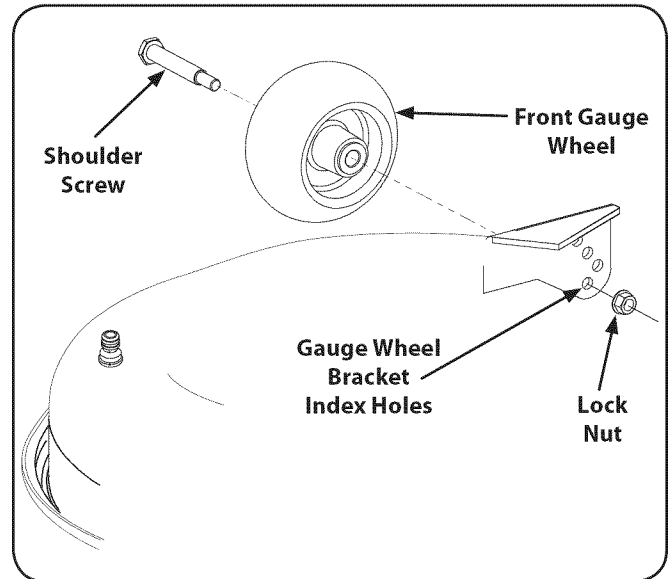

Figure 6-7
- Remove the lock nut securing one of the front gauge wheel shoulder screws to the deck. Remove the gauge wheel and shoulder screw. See Fig. 6-7.